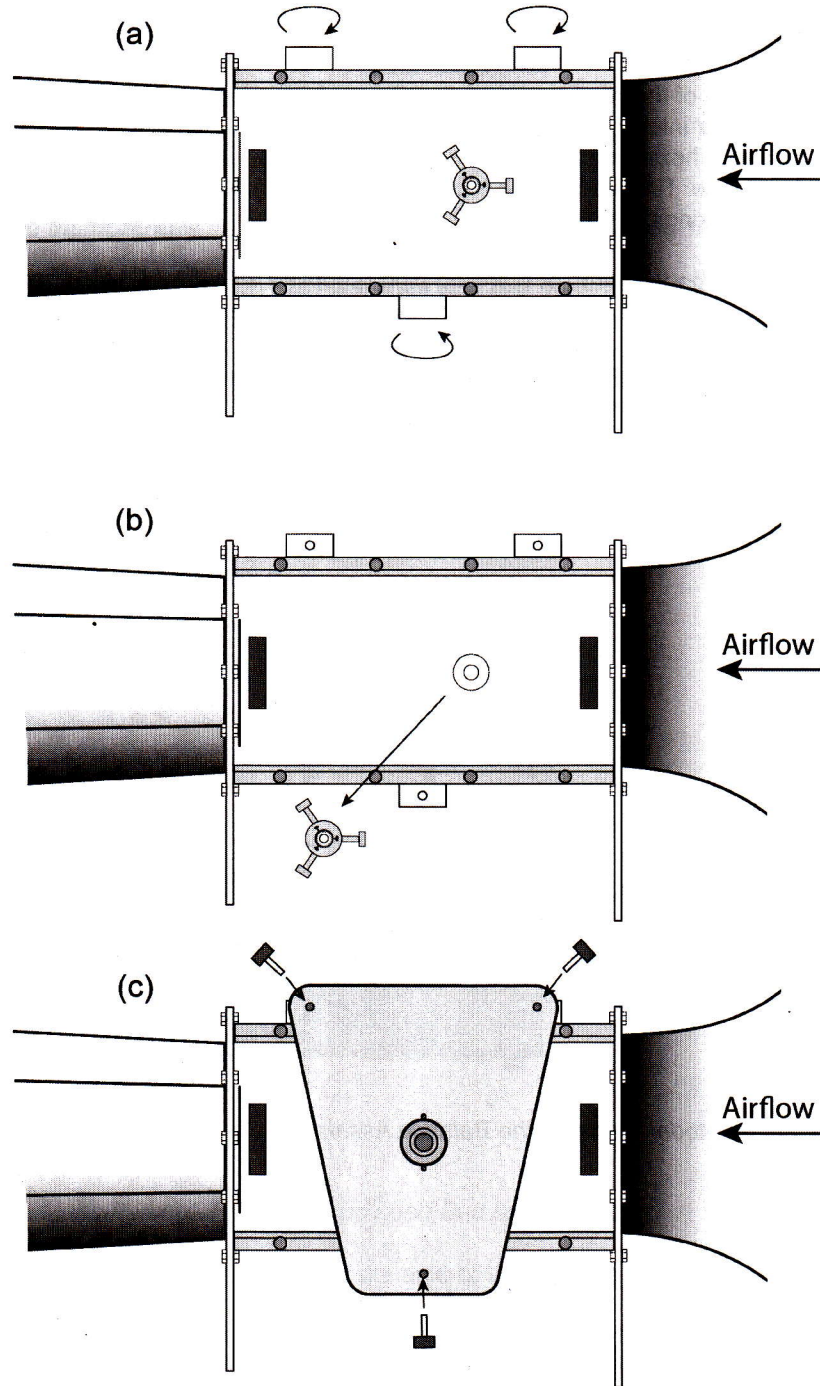

Figure 4 Fitting the AF1300z
1. Face the side of the wind tunnel so that the air flow is from right to left (fan housing is to the user's left and the air inlet is to their right). This is the 'operator's side' for most experiments on the wind tunnel. Use a hexagon tool to undo the fixings of three blocks on the working section - two above and one below. Turn each block around so its fixing hole can be seen, ready for the AF1300z. Tighten the fixings of the blocks Figure 4 (a).
2. Remove the model clamp or blanking plug (supplied with the AF1300) from the middle of the clear window on the user's side of the working section Figure 4(b).
3. Use the thumbscrews and washers (supplied) to fix the trapezoidal back plate to the user's side of the working section see Figure 4(c).